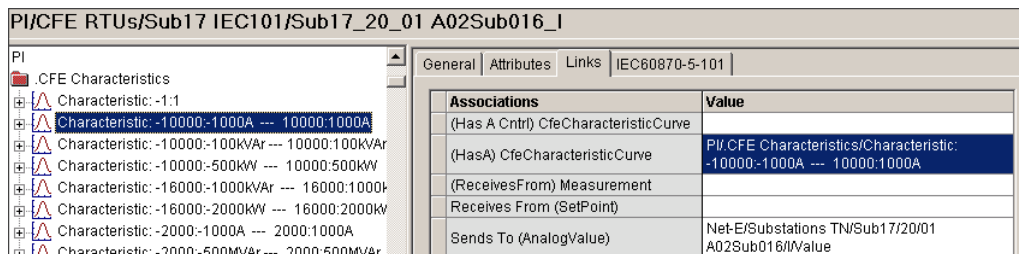

Figure 3-2.20: Linking the Characteristic Curve to the Analog RTU Data Point
5. Depending on the type of analog value you may establish a link between the instance of the type *CfeTelemeteredAnalog* and the measured value characteristic: drag a suitable characteristic instance into the reference field of the data point (Figure 3-2.20)